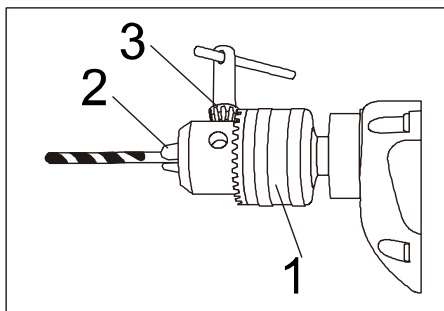

Fig. 6
2. Rotate the chuck collar (1) to open or close the jaws (2) to a point where the opening is slightly larger than the bit size you intend to use (Fig. 6).
4. Insert the chuck key (3) into one of the three holes in the chuck body. Rotate the chuck key clockwise until the drill bit is held firmly in place by the chuck jaws.